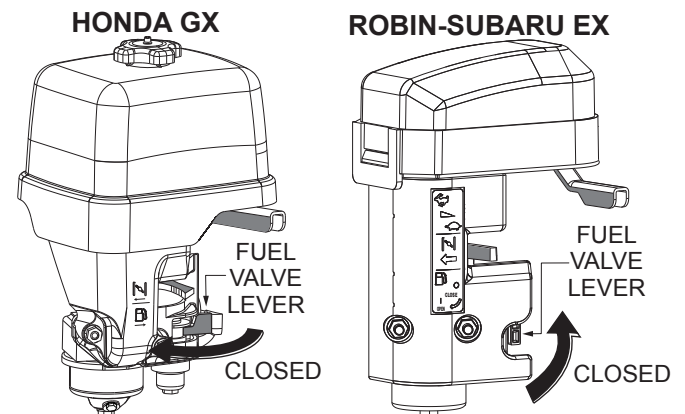

Figure 42. Fuel Valve Lever (Closed)
4. Place the fuel valve lever in the **CLOSED** position (Figure 42).